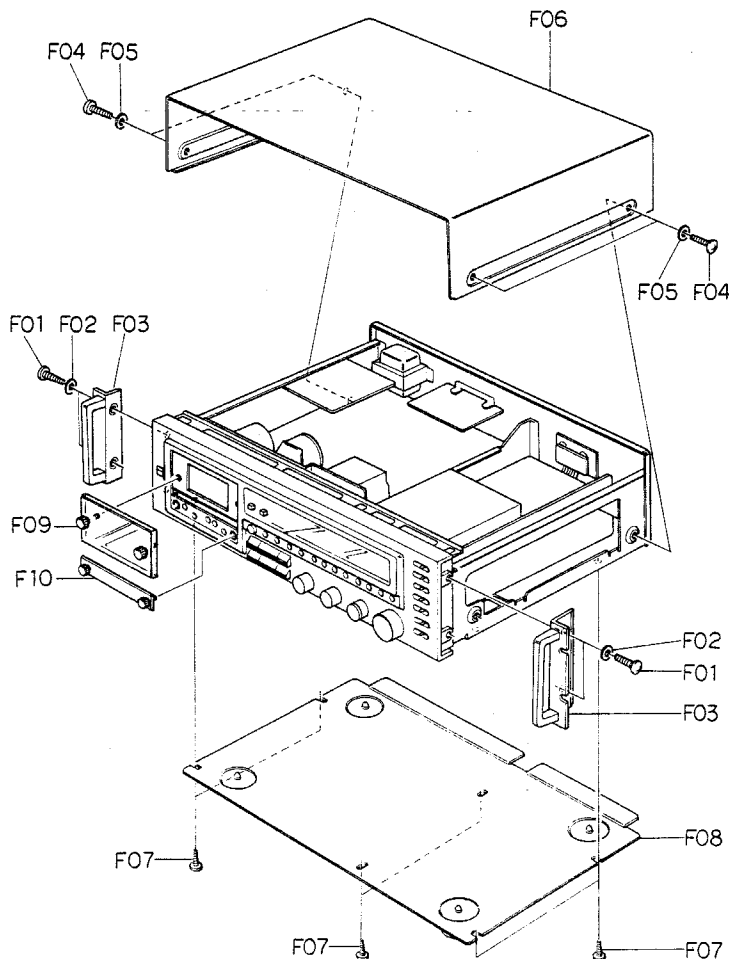

Fig. 2.1
Refer to Fig. 2.1.
- (1) Refer to Fig. 2.1. Remove Top Cover Ass'y and Bottom Cover Ass'y referring to items 2.2 and 2.3.
- (2) Pull out F01 (Volume Knob A), F02 (Volume Knob L), F03 (Volume Knob R), F04 (Volume Knob B) and F05 (Pitch Control Knob).
- (3) Remove F06, F07 and F08, then disassemble F09 (Front Panel Ass'y including 2 connectors).
- (2) Remove F01 and F02, then disassemble F03 (Rear Panel Ass'y).
- (2) Remove F04 and F05, then disassemble F06 (Power Transformer) and F07 (Transformer Plate).
- (3) Remove F08 and F09, then disassemble F10 (Fuse P.C.B. Ass'y).